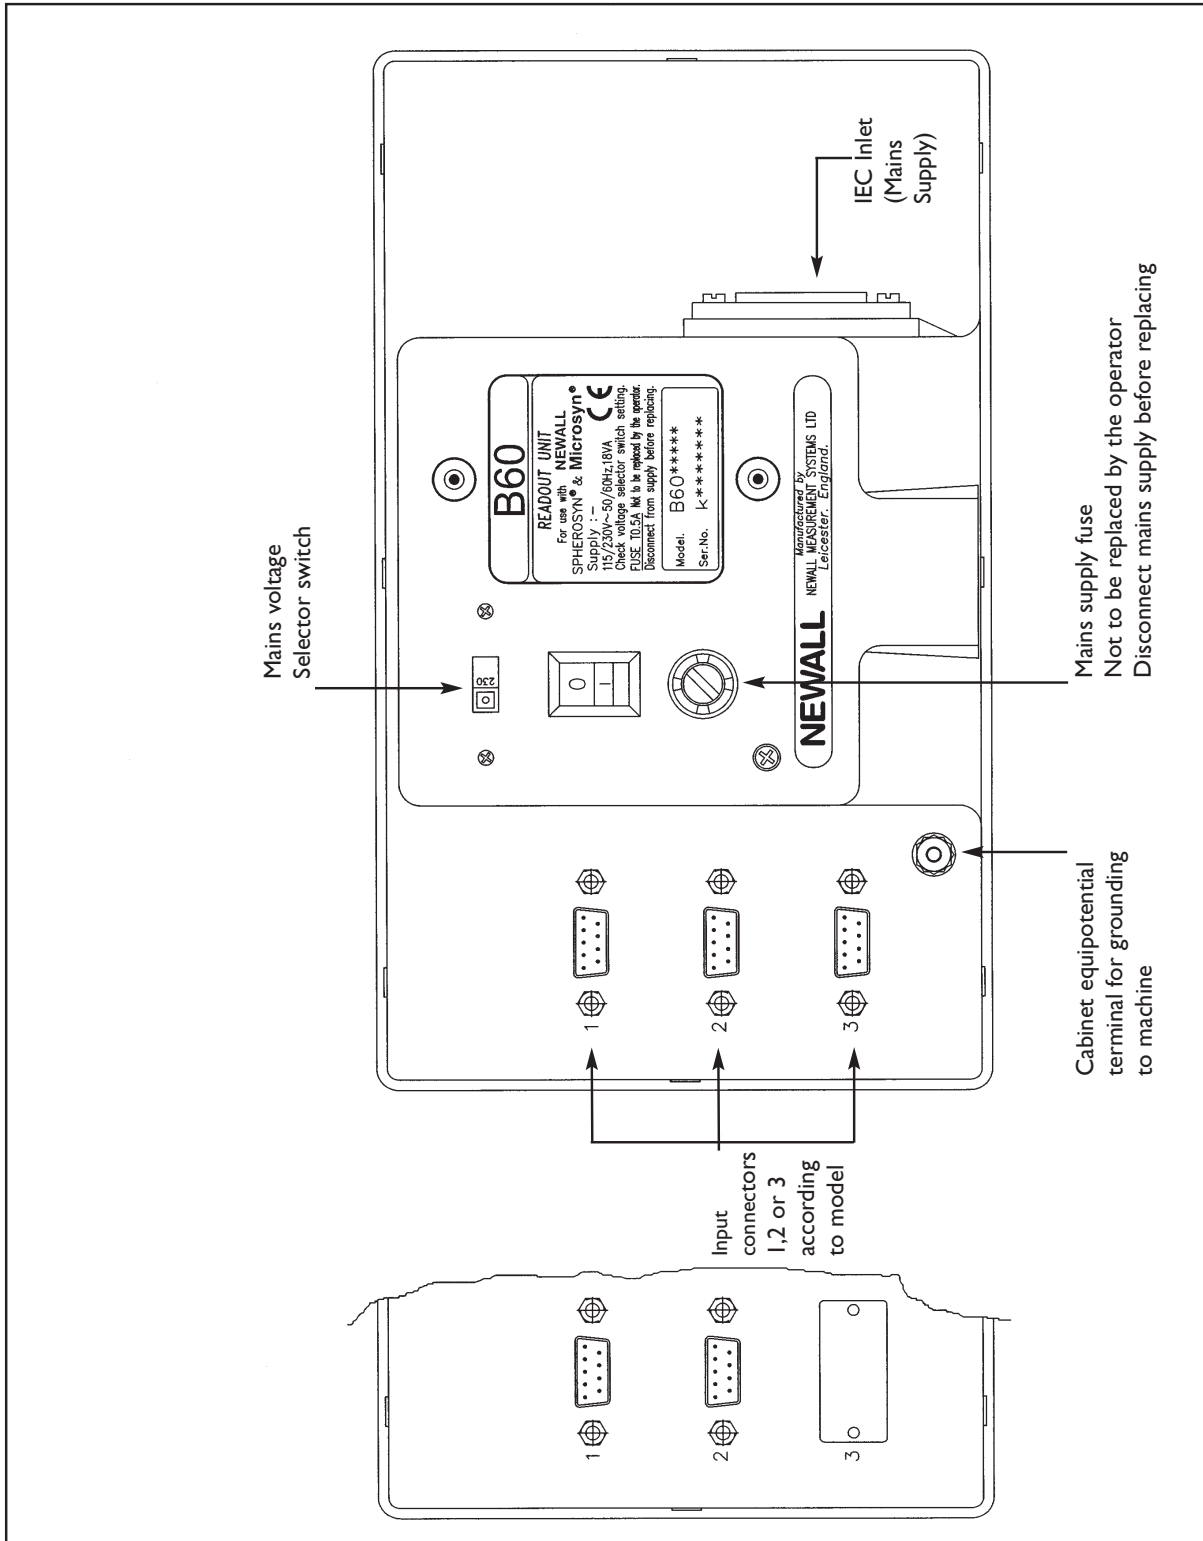

Figure 1.3 Connection Diagram
To ensure correct operation of the B60, it is recommended that the unit's case is grounded to the machine upon which it is fitted. Use a wire or strap of a least 1.5mm2 (16 AWG) from the cabinet equipotential terminal (See Figure 1.3) to a suitable point on the machine body. The wire should be as short as possible. The machine must also be properly grounded to a good earth point.
**BEFORE CONNECTING THE ELECTRICAL SUPPLY TO THE CABINET, CHECK THAT THE VOLTAGE SELECTOR SWITCH IS CORRECTLY SET.** Figure 1.3 shows the position of this switch.
Figure 1.3 shows the connection sockets at the back of the B60. The **B60** is suitable for use only with Newall Spherosyn and Microsyn analogue encoders.
The mains supply switch for the B60 is mounted on the back of the unit as shown Figure 1.3.